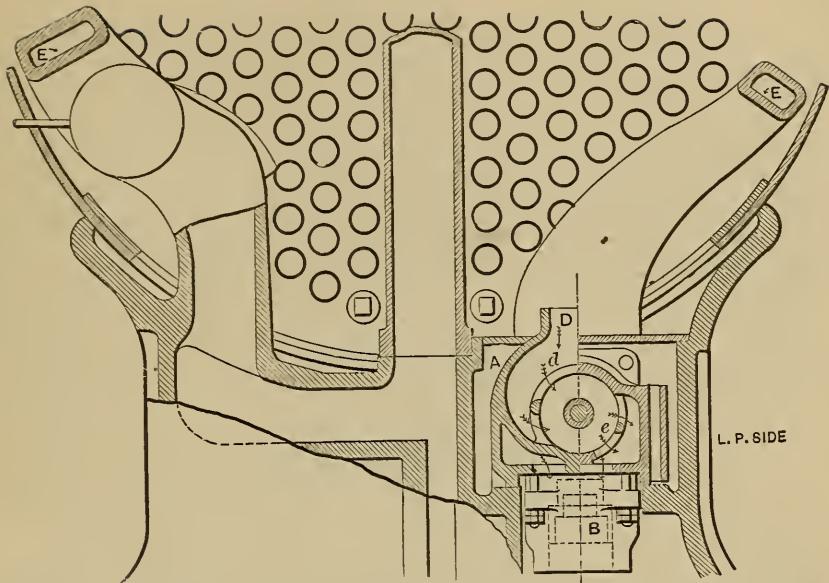
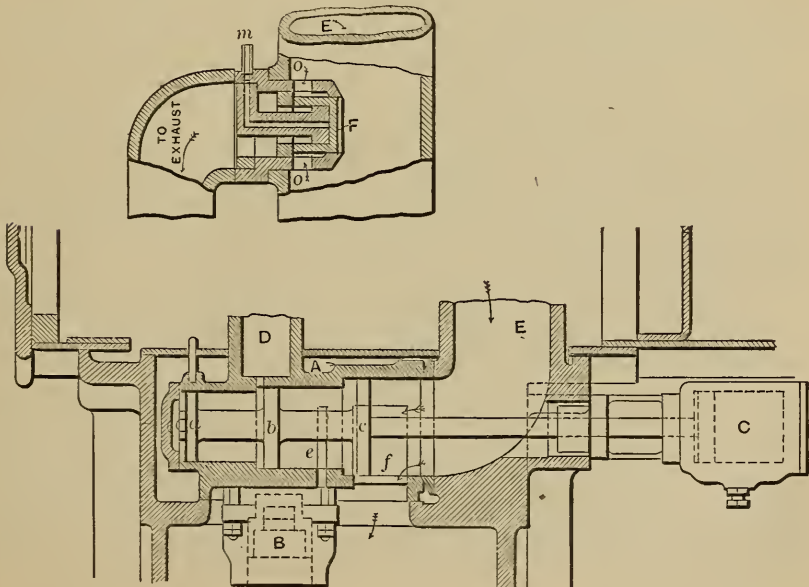
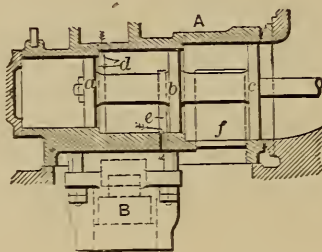

Fig. 158. Front Section of Rhode Island Locomotive Works' Intercepting Valve at Ports *d* and *e*; also Front View of Portion of Receiver with Exhaust Valve.
Fig. 159. Side Section of Rhode Island Locomotive Works' Intercepting Valve, Running Compound.
Fig. 160. Side Section Rhode Island Locomotive Works' Intercepting Valve, Running Non-Compound.
A. As shown in figure 158, which gives a front section of the intercepting-valve at the ports *d* and *e*, and also a front view of a portion of the receiver with the exhaust-valve; in figure 159, which shows a side section of the same while running compound, and figure 160, which shows the same while running simple. The intercepting-valve being in any position as in figure 159, and the exhaust-valve closed as in the same figure, the throttle being opened, boiler steam will pass to the high-pressure cylinder in the usual manner, and also through the
pipe *D* into the intercepting-valve *A*, causing the piston to move into the position shown in figure 160. In this position the receiver is closed to the low-pressure cylinder by the piston *C*, and steam from *D* passes through the ports *d* and *e*, and the reducing-valve, *B*, into the low-pressure steam-chest; the pressure being reduced from boiler-pressure in
the ratio of the cylinder-areas. The piston *a-b-c* is so proportioned that it will automatically change to the compound position shown in figure 159, when a predetermined pressure in the receiver *E* has been reached by the exhausts from the high-pressure cylinder. The engine thus starts with steam in both cylinders and automatically changes to compound at a desired receiver-pressure.
A. The small pipe m is from a hand-valve in the cab, connecting it to either steam or atmosphere. When desiring to run compound, m is put in connection with atmosphere; the receiver steam keeping the valve F in position as shown in figure 159. To run simple, m is connected to steam which will hold the valve F as in figure 160, the ports o opening E to the exhaust. The valve F takes either position at any time when desired by the engine-runner.
A. By opening the exhaust-valve before starting; on its closure the piston $a-b-c$ will automatically take the "compound" position of figure 159, as already described.